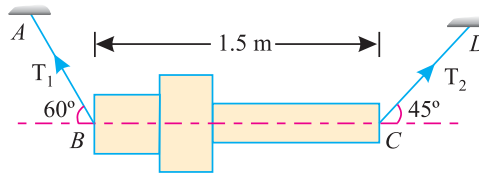

Fig. 2.2.
**Example 2.4.** A machine component 1.5 m long and weight 1000 N is supported by two ropes AB and CD as shown in Fig. 2.2 given below.